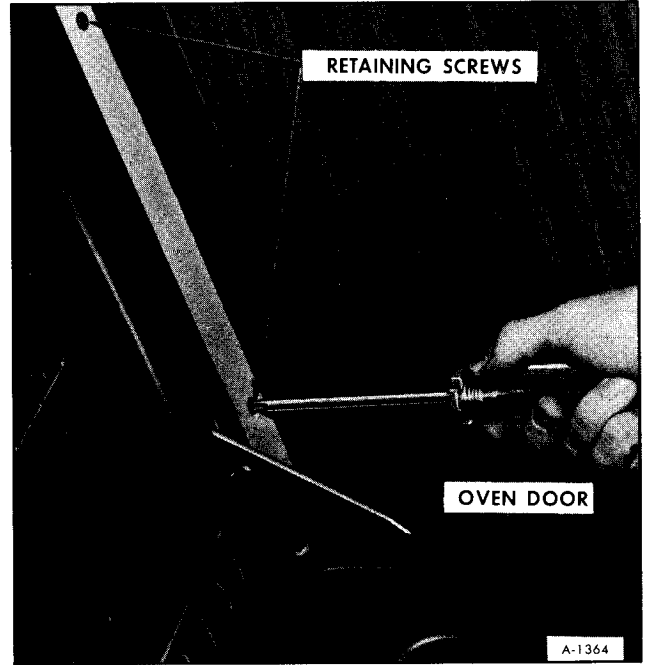

Figure 24—Removing Front Range/Oven Anchor Screws
4. Open oven door and remove two screws from each side of the oven front trim strips that hold unit to cabinet front (figure 24).